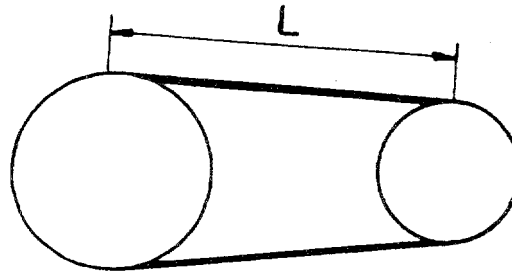

Fig 2
- To measure the free strand length L (figure 2) : for example 1200 mm